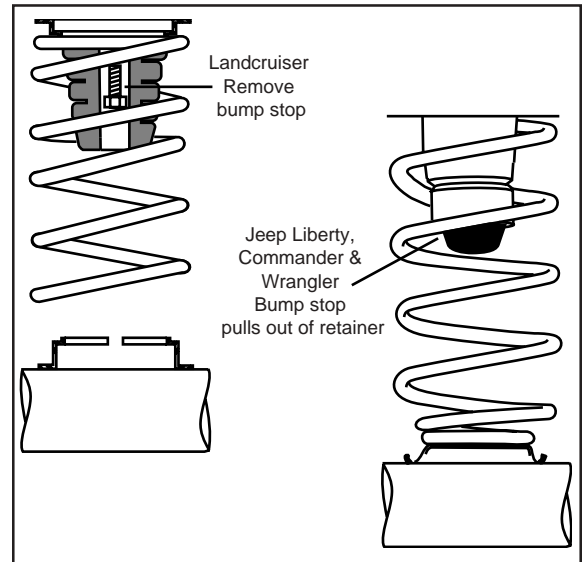

Figure 1
4. Landcruiser: Using a socket and extension, remove the rubber bump stop from the upper spring seat and discard (Figure 1).
NOTE: Jeep Liberty, Commander & Wrangler: Pull jounce bumper out of cup (Figure 1).